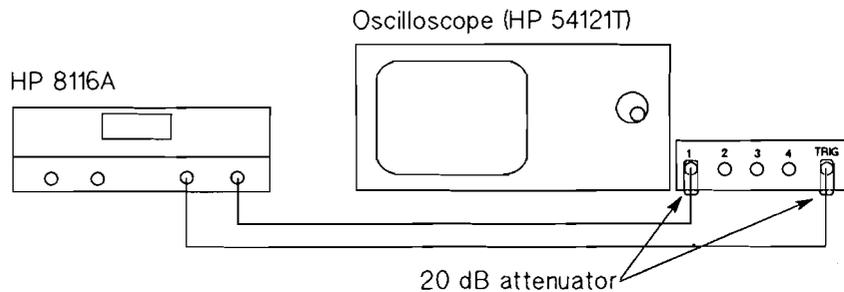

Figure 8-4. Pulse Width Performance Test - Stage 2
5. Connect the HP 8116A and oscilloscope as shown in Figure 8-4.